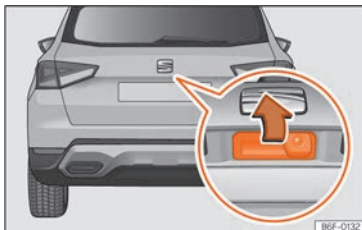

Fig. 57 Rear lid: opening from the outside.
- **Open:** place slight pressure on the handle. The rear lid opens automatically >>> **Fig. 57**.